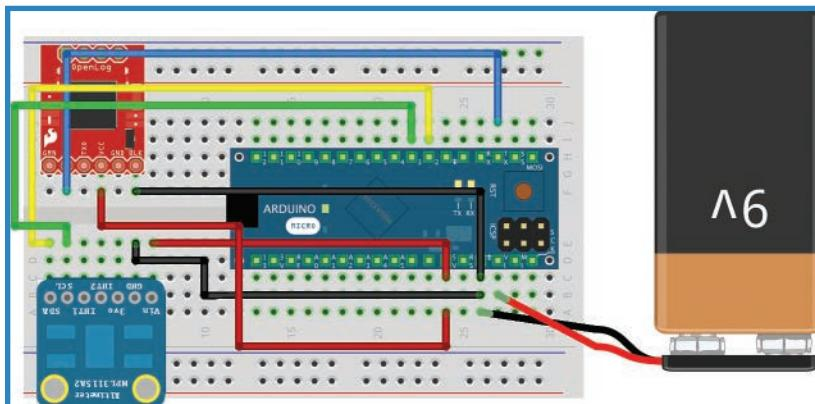

FIGURE 5.17 Connect the battery's leads to power your project.
5. Add the battery. The leads plug into the Micro pin marked V_I (voltage in) as well as ground, shown in Figure 5.17.